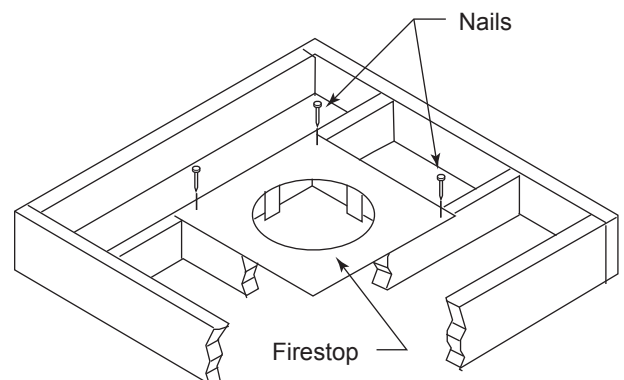
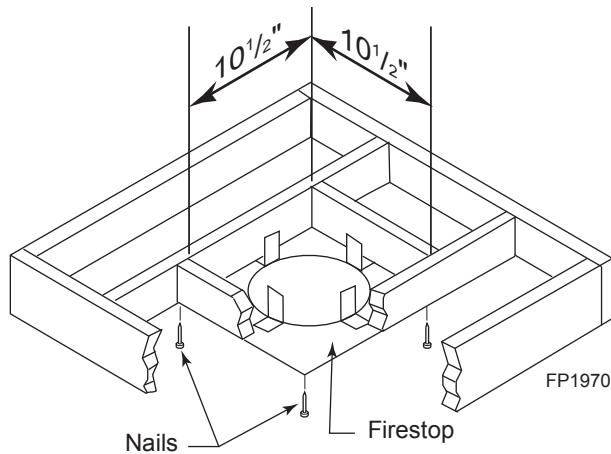

Figure 24 - If Area Above is a Room, Install Firestop above Framed Hole as Shown
Figure 25 - If Area Above is Not a Room, Install Firestop above Framed Hole as Shown
1. Cut a 10 1/2" (241 mm) square hole in the ceiling using the locating hole as a center point. The opening should be framed to 10 1/2"x10 1/2" (241 x 241 mm) inside dimensions as shown in Figure 25 using framing lumber the same size as the ceiling joist. If the area above the ceiling is an insulated ceiling or a room, nail firestop from the top side. This prevents loose insulation from falling into the required clearance space. Figure 24. Otherwise, install firestop below the framed hole. Figure 25